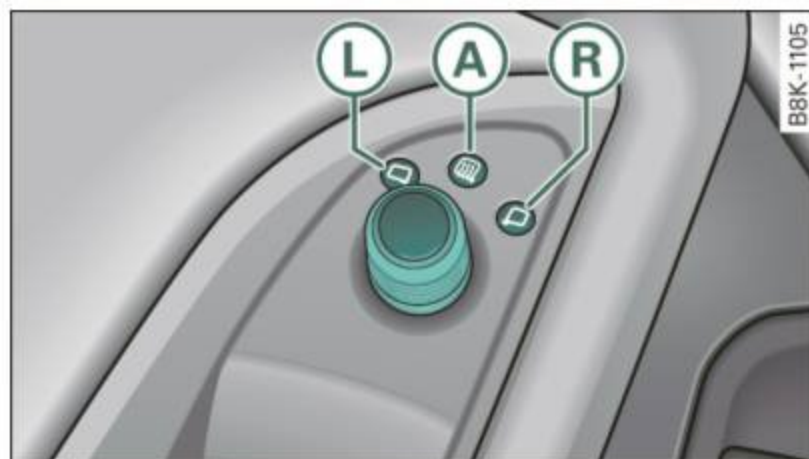

Fig. 66 Forward section of driver's armrest: power mirror controls
- Rotate the knob to the **L** position (driver's exterior mirror) or to the **R** position (passenger's exterior mirror) ⇒ fig. 66.
When the reverse gear is engaged, the mirror surface tilts downward slightly if the setting is for the passenger's mirror (knob in position **R**) ⇒ fig. 66). This allows you to see the curb during parallel parking.